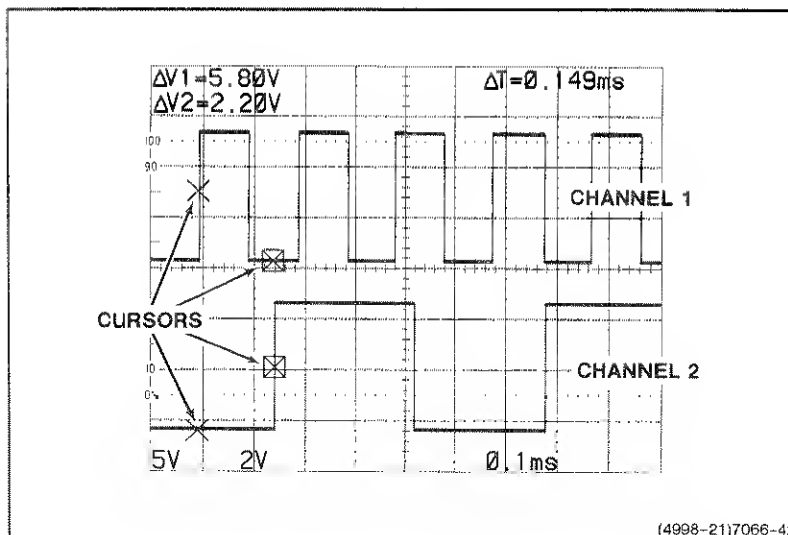

Figure 6-21. Time difference between two time-related pulses.
10. Push in the CURSORS knob (the SELECT C1/C2) to select the other cursor, and use the CURSORS control to position the active cursor at the 50% level of leading edge of the Channel 2 pulse (see Figure 6-21).